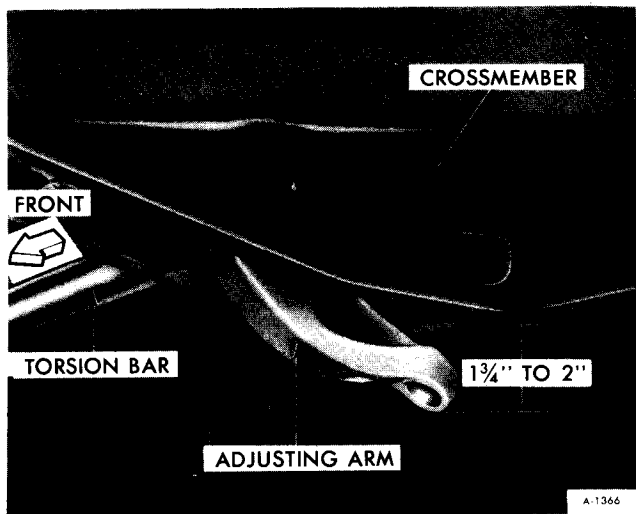

Figure 21—Positioning of Adjusting Arm
6. Insert adjusting arm into the crossmember and position approximately  $1 \frac{3}{4}$ " below the centerline of the crossmember (see figure 21). Slide torsion bar rearward until it is flush with the rear face of the adjusting arm.
5. Insert torsion bar adjusting arm into crossmember. Position so the arm will engage the torsion bar and the end of the arm will be approximately 1 3/4" below the centerline of the crossmember. (Refer to figure 21.) Tap crossmember forward enough to engage bar into arm.